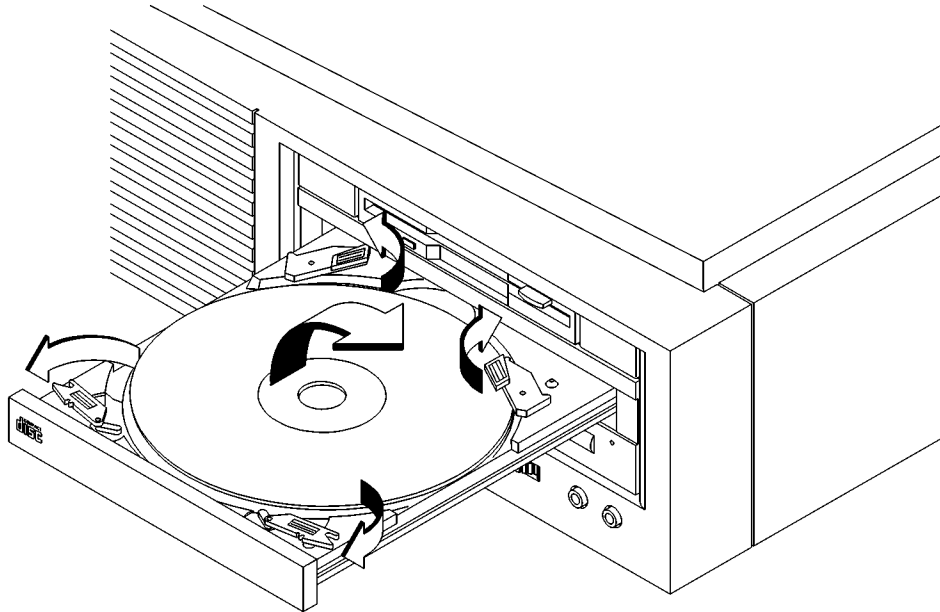

Figure 11
- 2 Wait until the drive has fully ejected the disc tray. Be sure the disc holders are held away from the disc by the disc holder retainers. Then remove the disc from the tray as shown in Figure 11. Be careful to touch only the edges of the disc.